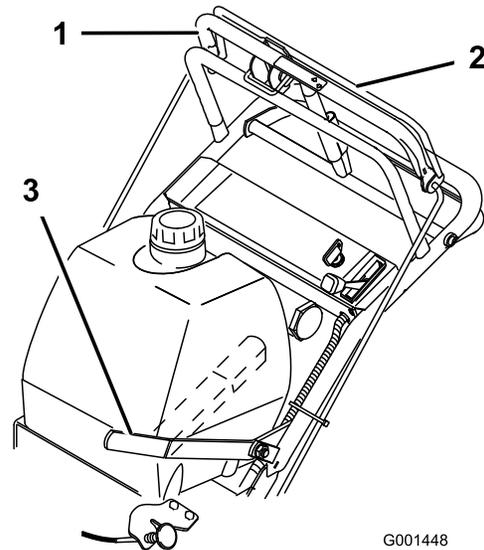

Figure 9
1. To engage the blades, squeeze the blade-control bail against the upper control bar (Figure 9).
To disengage the blades, pull the blade-control lever (PTO) rearward all the way (Figure 9). The engine will stop when the blade-control bail is released with the blade-control lever engaged.